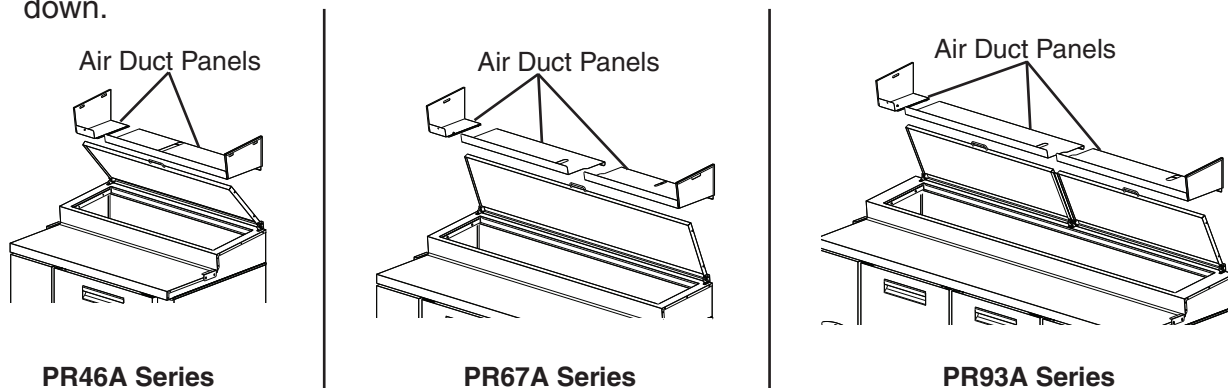

Fig. 38
- b) **Periodically:** Follow the steps below to remove and clean the air duct panels and rail area. The quantity of air duct panels varies by model. See Fig. 38.
- (1) Remove the left and right air duct brackets, then remove the upper right air duct panel, upper center air duct panel (if applicable), and upper left air duct panel. Next, remove the lower air duct panel (PR46A(-D) and (PR67A(-D_)), lower right air duct panel, and lower left air duct panel (PR93A(-D_)).
- (2) Wipe the air duct panels (top and bottom), rail area (sides and top), and surrounding mounting area with mild soap or detergent and warm water. Clean any rust colored spots using a non-abrasive cleanser. After cleaning, wipe the air duct panels with water.
- (3) Replace the air duct panels in their correct positions starting from the right side. **WARNING! Air duct panels must be replaced in the proper location and orientation. See Fig. 38. Otherwise, cooling performance will be reduced.**